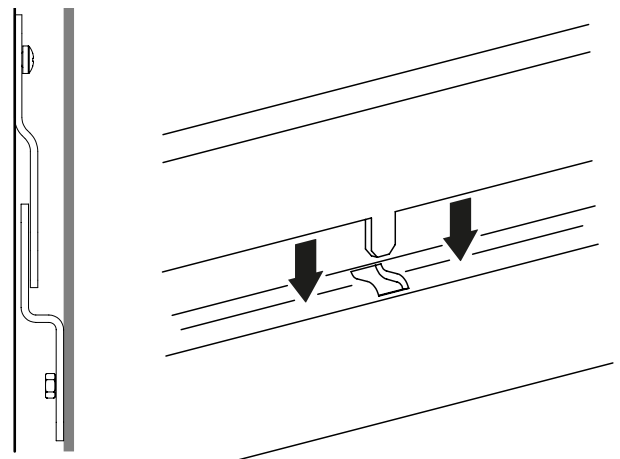

Figure 13: Top bracket locating procedure
- ▶ Once the water heater is located correctly on the wall bracket, slide either left or right to locate the spigot in the slot, see figure 13 above.